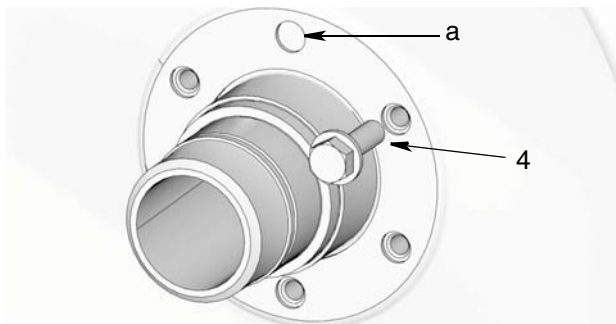

FIG. 28
- b. Temporarily install one bolt (4) through a hole to hold the swivel in the installed position (FIG. 28).
- d. Mark the position of the missing threaded screw hole (a) (FIG. 28) on the swivel to use as a reference for lining up the ratchet (31) for installation in Step 2, page 19.